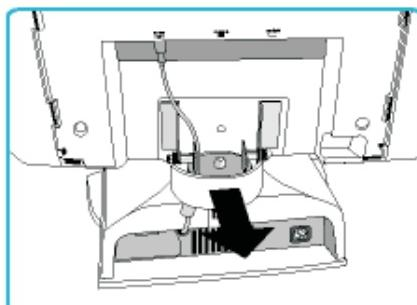

Fig. 2
Step 2 : Remove plastic ring from the hinge. See Fig. 2